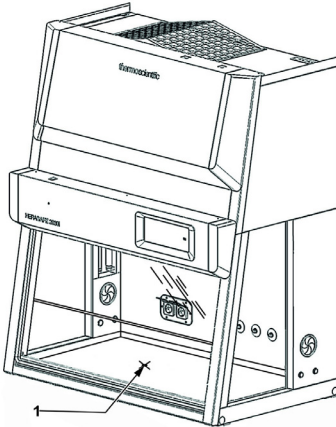

Figure 37. Vibration test
1. **Figure 37:** Secure the sensor of the vibration analyzer firmly to the center [1] of the workplate using double-faced adhesive tape.